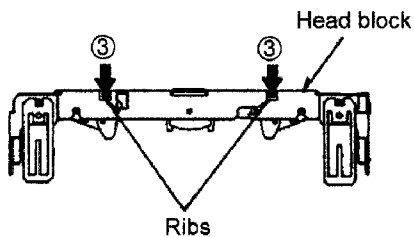

Fig. 3
1. Slide the switch knob in the direction of arrow.(Fig.3)
5. Remove the rear cabinet in the direction of arrow ①.(Fig.3)
2. Remove the pinch roller in the direction of arrow ③.(Fig.3)